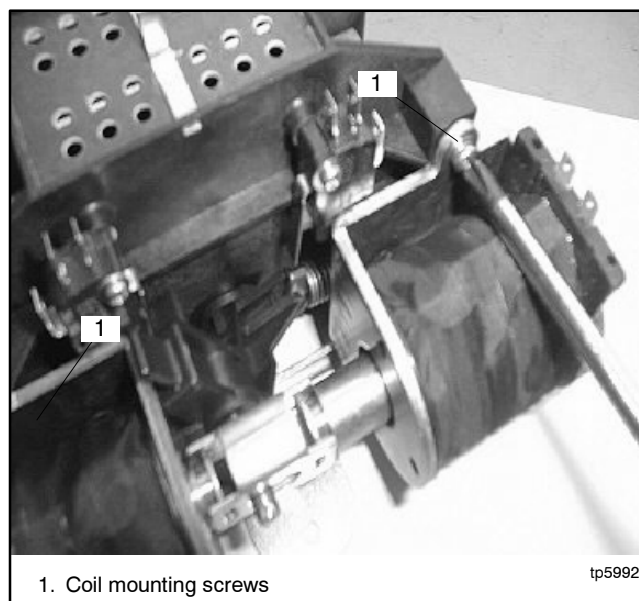

Figure 6-9 Loosen Coil Mounting Screws, 100 Amp Models
1. Loosen the four coil mounting screws (two for each coil) by two full rotations. Do not remove the coils. See Figure 6-9.